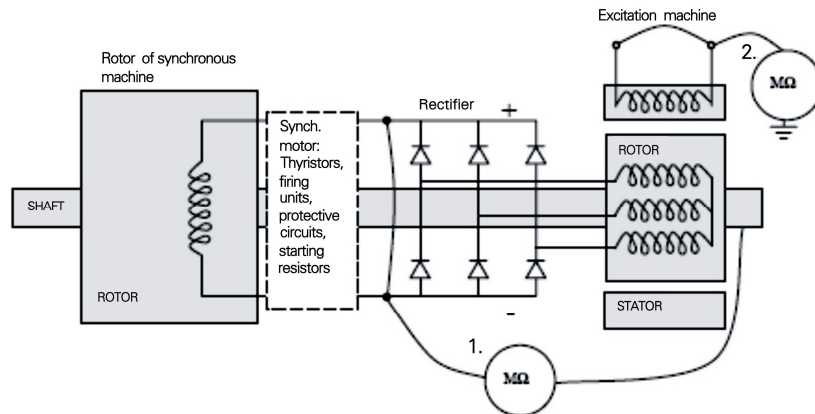

Figure 7-4. Connections for insulation resistance measurements.
- Connect the insulation resistance meter between the rotor windings and the shaft of the rotors as shown in *Figure 7-4. Connections for insulation resistance measurements*. The measurement current must not go through the bearings.
- Connect the insulation resistance meter between the stator winding and the frame of the machine as shown in *Figure 7-4. Connections for insulation resistance measurements*.